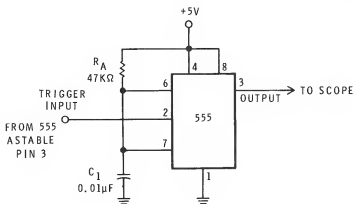

Figure 5-56
1. Wire the circuit shown in Figure 5-56. Connect pin 3 of your Experiment 3 circuit to pin 2 of this circuit. Connect your oscilloscope to pin 2 of the monostable circuit. Set the oscilloscope's vertical input to 2 volts per division and the time base to 0.5 milliseconds per division.